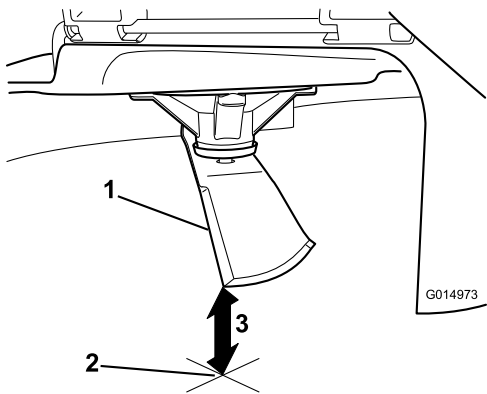

**Figure 52**
4. Rotate the same blade 180 degrees so that the opposing cutting edge is now in the same position (Figure 52).